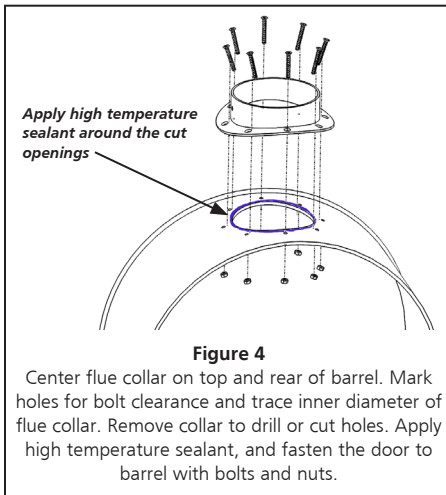

Figure 4
- Secure the flue collar with the 6 included bolts. (Figure 4).
Center another barrel on top. Adjust so that back ends of barrels are aligned. Mark on barrel surface holes for leg bolts and also where the barrel contacts stove pipe, then cut a hole and install flue collar to that location as described in figure 4. Repeat on the opposite side and end of the barrel.